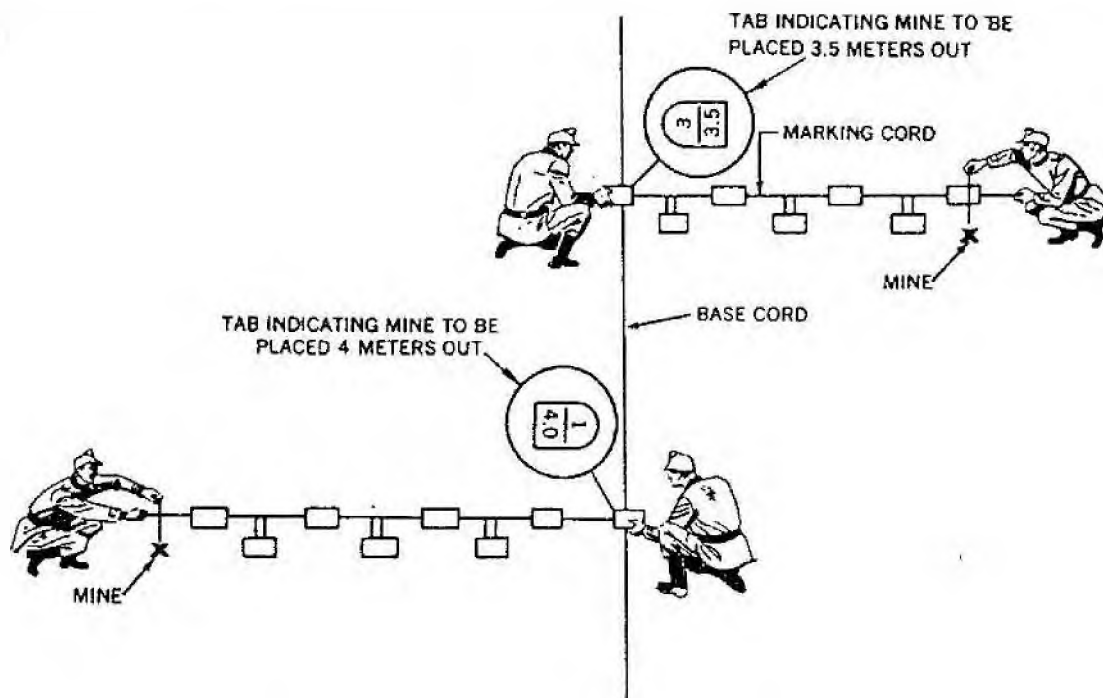

Figure 5-2. Soviet method of marking the location of mines.
(2) *Base cord and marking cord.* The base cord and marking cord method (fig. 5-1) requires a base cord 30.5 to 50 meters long (with 15 numbered tabs tied at various intervals) and a marking cord 7.5 to 10 meters long (with markers tied at each meter and 0.5 meter length). The base cord is staked out in the same way as the spacing cord described above. Two engineers stretch out the marking cord perpendicular to the base cord to the distance indicated on the first tab (fig. 5-2), which marks the location for a mine. They then move the cord up to the second tab and stretch it out perpendicular to and in the direction from the base cord indicated by the tab. The consecutively numbered tabs on the base cord are